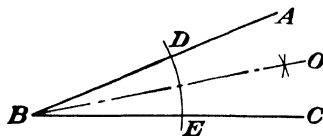

Fig. 116.
- a. Place the point of the compass at B (see Fig. 116).